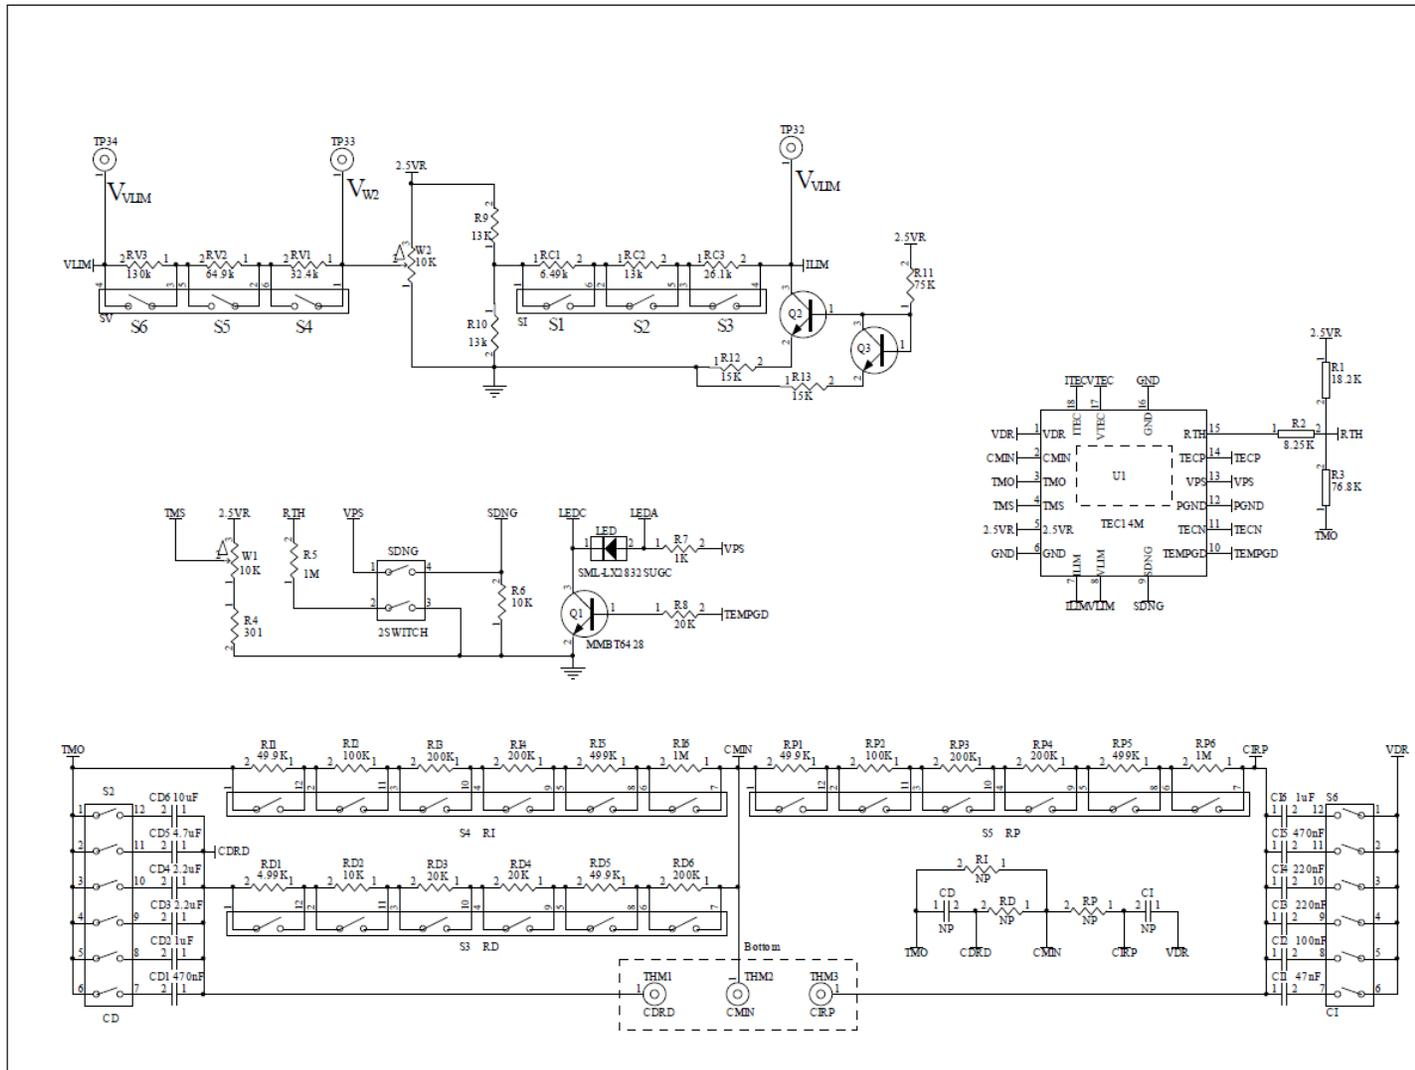

Figure 7. Schematic of TEC Controller Evaluation Board TEC14MEV1.0
The schematic is shown in Figure 7.
- f. To control the TEC voltage directly by using a DAC, connect VTEC to the output of the DAC and use this formula:  $\text{TEC voltage} = 2.5\text{V} - V_{\text{VTEC}} \text{ (V)}$ .
- h. The evaluation schematic is given in Figure 7.